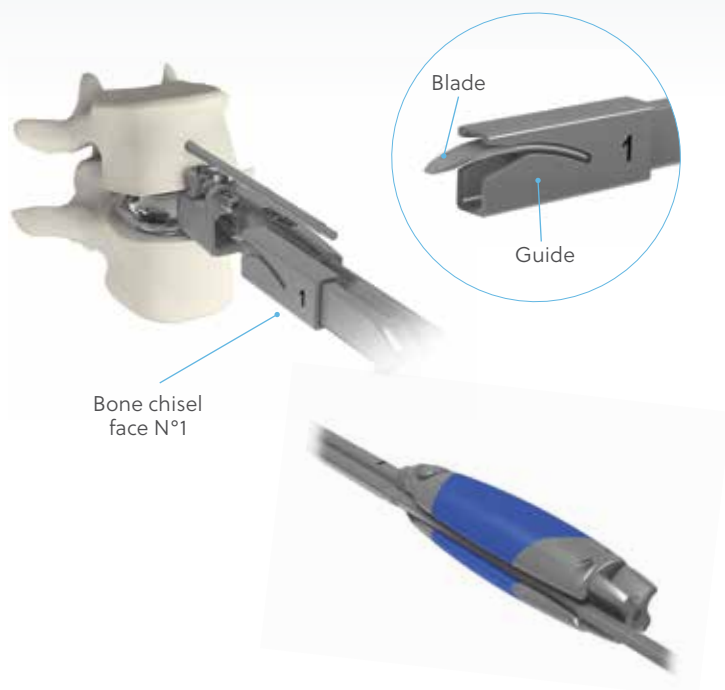

Figure 37
- Then, engage the thinnest part of the bone chisel in the groove of the implant holder's handle (**Figure 37**).